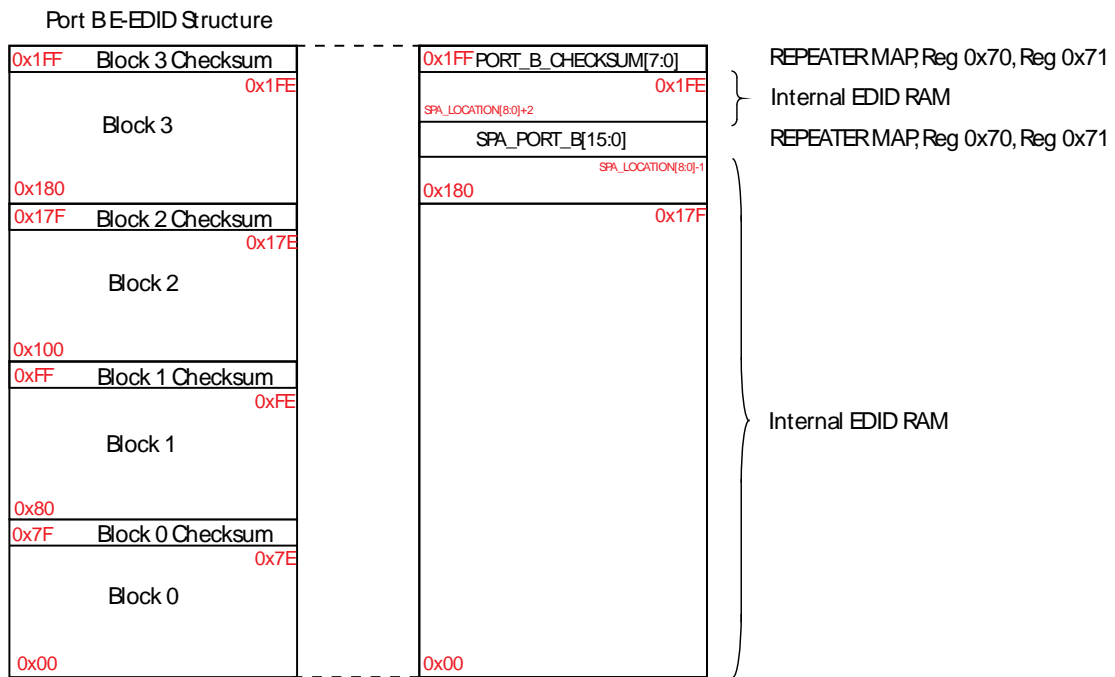

Figure 69: Port B E-EDID Structure and Mapping for SPA Located in E-EDID Block 3
- Figure 69 – SPA located in E-EDID block 3